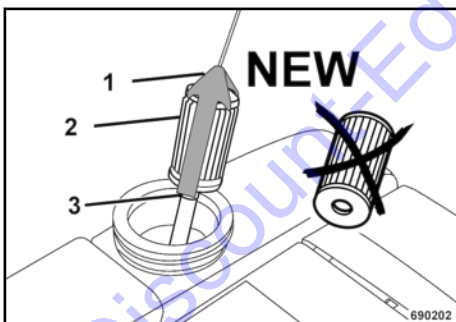

Fig. 54
Pull the holder (1) ↗ Fig. 54 with the fuel filter (2) by the cord out of the tank.